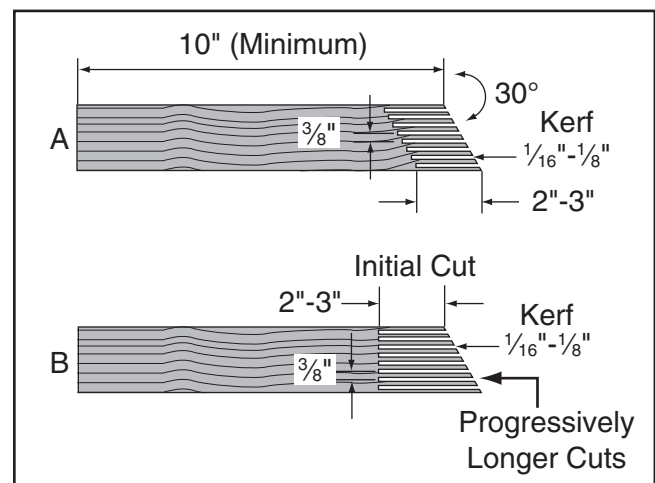

Figure 75. Patterns for featherboards (top view shown).
3. Make a series of end cuts with the grain $\frac{3}{8}$ "– $\frac{1}{4}$ " apart and 2"–3" long, as shown in **Figure 75 (A)**. Alternatively, start cuts at 2"–3" deep, then make them progressively deeper, as shown in **Figure 75 (B)**.